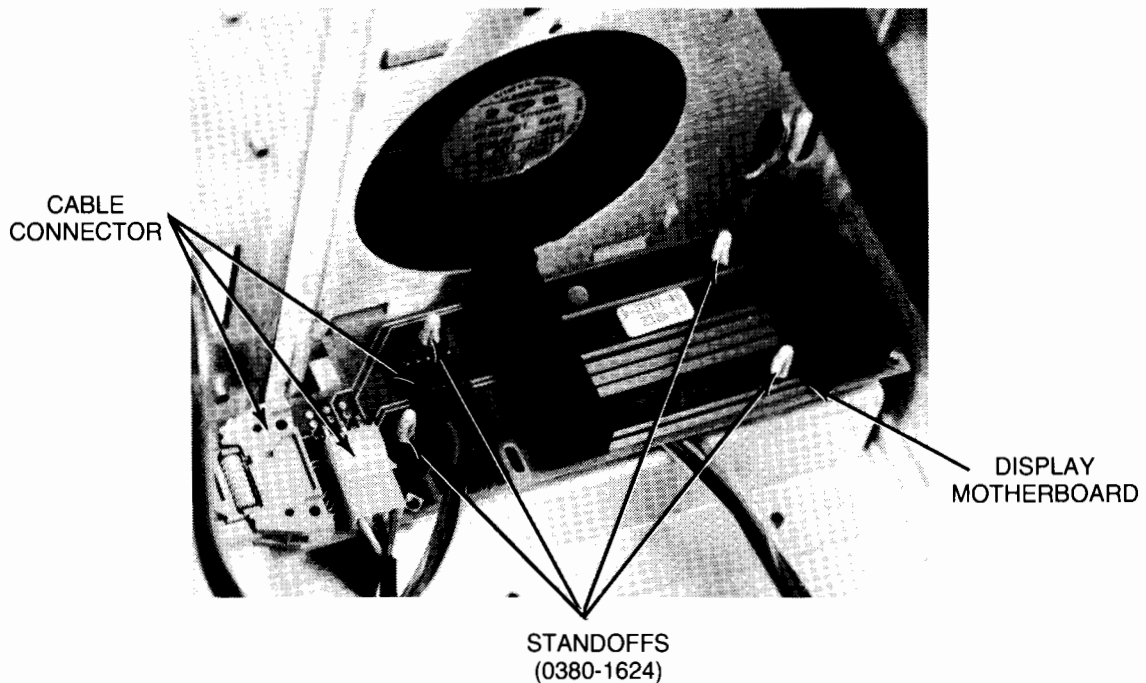

Figure 4-85. Removing Display Motherboard
4. Disconnect three cable connectors from display motherboard (Figure 4-85).
5. Release display motherboard from plastic standoffs (Figure 4-85) by pushing paper spindle tool (09815-20602) over standoff while lifting up on motherboard.